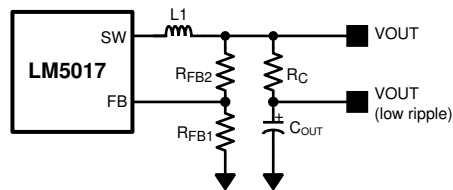

图 7-1. Low Ripple Output Configuration
This regulator regulates the output voltage based on ripple voltage at the feedback input, requiring a minimum amount of ESR for the output capacitor ( $C_{OUT}$ ). A minimum of 25 mV of ripple voltage at the feedback pin (FB) is required for the LM5017. In cases where the capacitor ESR is too small, additional series resistance may be required ( $R_C$  in 图 7-1).
For applications where lower output voltage ripple is required the output can be taken directly from a low ESR output capacitor, as shown in 图 7-1. However,  $R_C$  slightly degrades the load regulation.